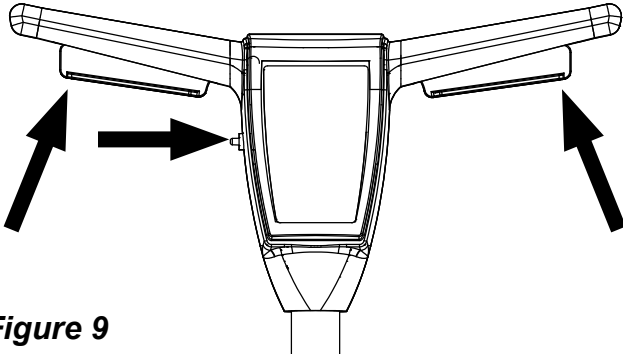

Figure 9
The switch to start and stop the machine is activated by the interlock switch and the levers under the handle grips (see Figure 9). To start the machine, follow this procedure:
3. Push the interlock switch first and then apply pressure to the levers. (see Figure 9).